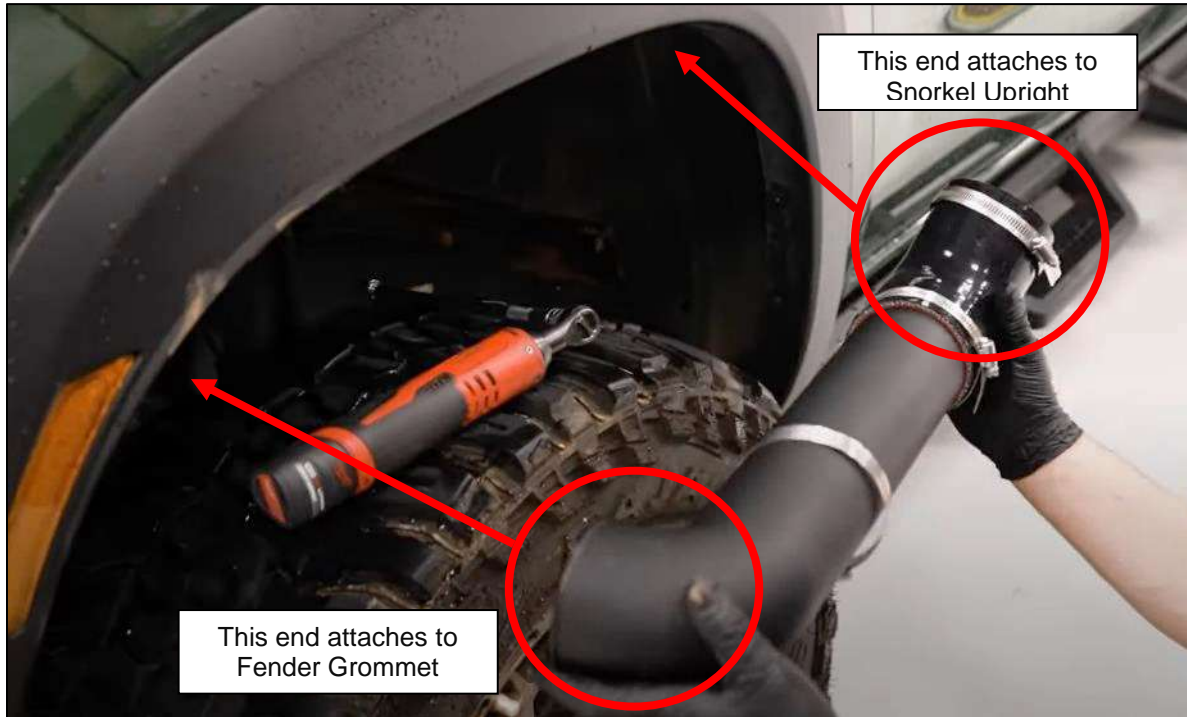

Figure 22
33. Locate the Fender Pipe Assembly created in *Step 26*. Position it inside the Driver's Side Wheel Well and attach the bend of the Fender Pipe to the Fender Grommet first. Adjust the Band Clamps so they can be tightened, but DO NOT tighten yet. *Figure 22*.
34. Swing the Fender Pipe Assembly up and connect the Silicone Coupler to the Snorkel Upright. Adjust the Band Clamps so they can be tightened, but DO NOT tighten yet. *Figure 22* above.